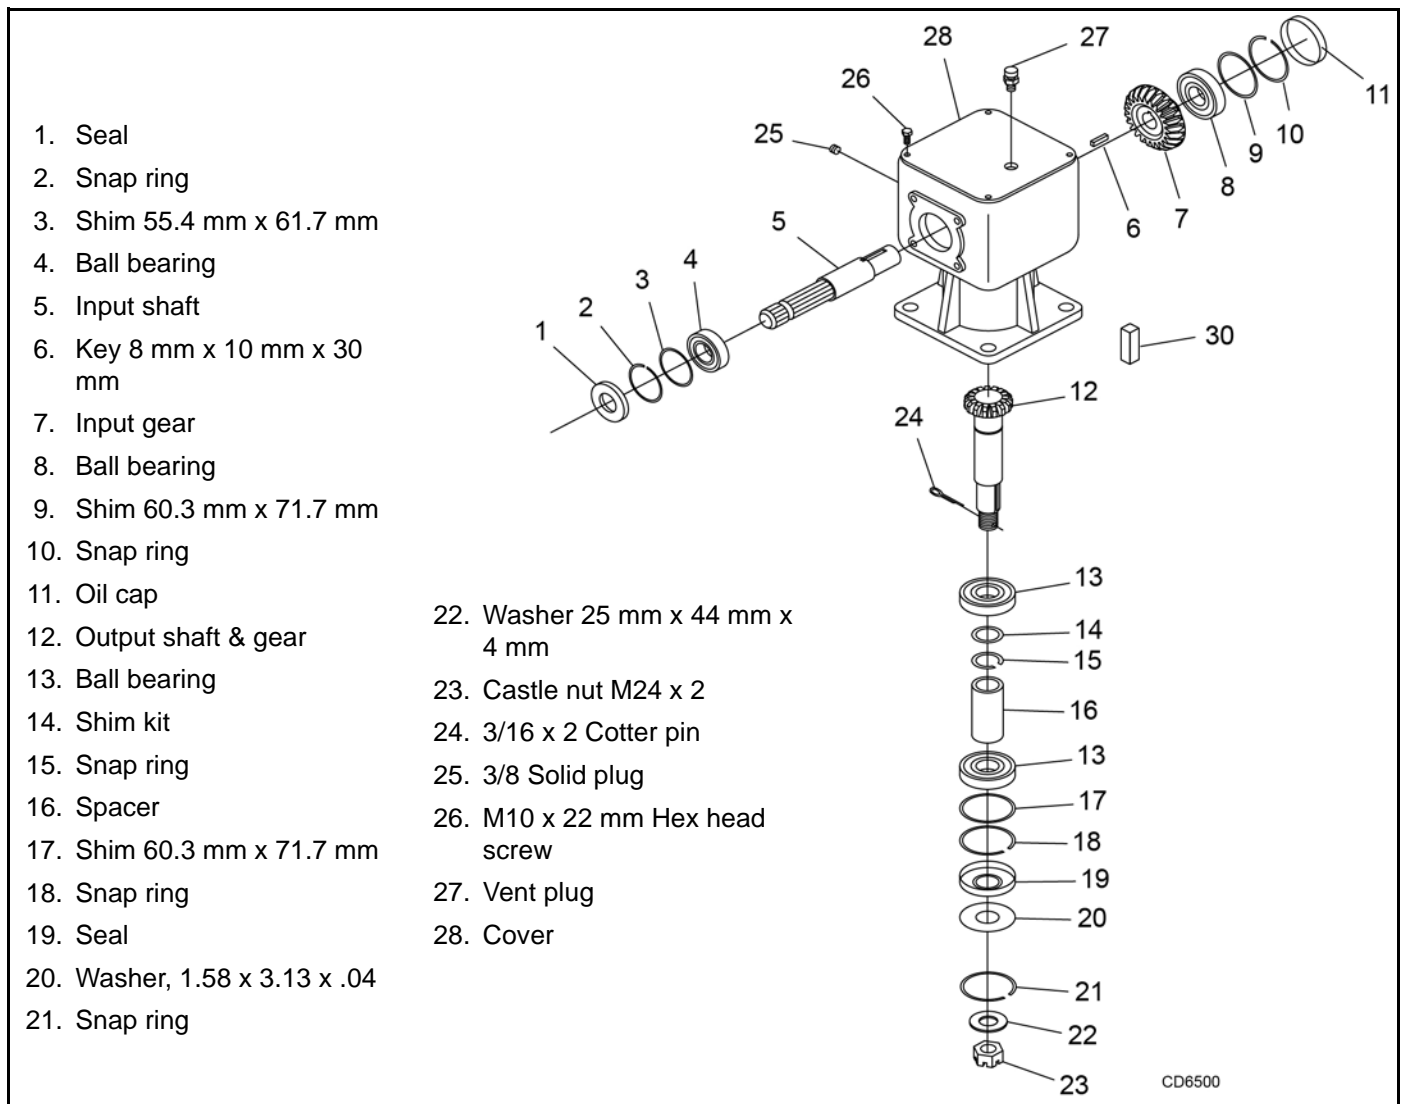

Figure 24. Gearbox Assembly
Horizontal Shaft Seal Replacement (Figure 24)
2. Remove vent plug (27), Figure 24, and siphon gear lube from housing through this opening.
3. If the leak occurred at either end of horizontal shaft, remove oil cap (11) and/or oil seal (1). Replace with new one (see Seal Replacement, page 26).
Disassemble Gearbox (Figure 24)
1. Remove top cover (28), Figure 24, from housing. Turn gearbox upside down and pour out remaining gear oil from gearbox.
2. Remove oil cap (11) (to be replaced).
3. Remove snap ring (10) and shim (9) from input shaft (5).
4. Support gearbox in hand press and push on input shaft (5) to remove bearing (8).
5. Remove gear (7) from inside housing.
6. Remove oil seal (1) from front of housing (to be replaced).
7. Remove snap ring (2) and shim (3) from front of housing.
8. Remove input bearing (4) by using a punch and hammer from outside of housing.
10. The castle nut (23) and cotter pin (24) are already removed with the drive sheave. Remove the snap ring (18), washer (20), and seal (19).
11. Remove output shaft (12) and bearings by using a punch and hammer and tap on top to drive down.
Vertical Shaft Seal Replacement (Figure 24)
Reassemble Gearbox (Figure 24)